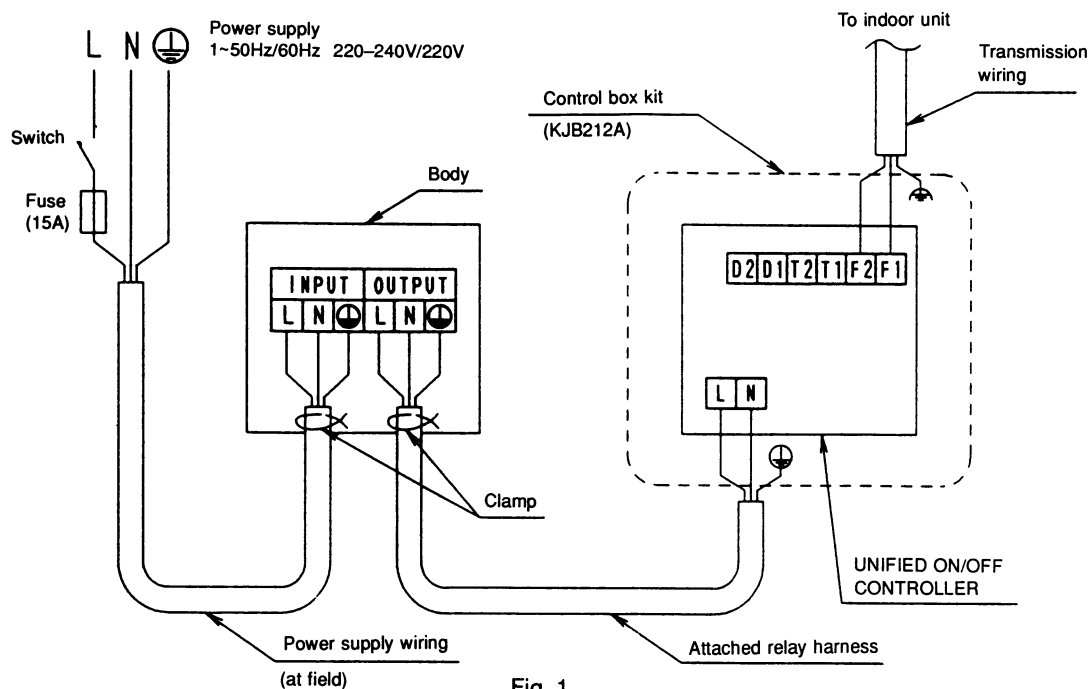

Fig. 1
- You may also use the sheathed wire if the above condition ① is satisfied, but remember that the sheathed wire fails to comply with EMC (Electromagnetic Compatibility) (European Directive).
- The grounding of transmission line as shown in the figure 1 is not required if the sheathed wire is used.